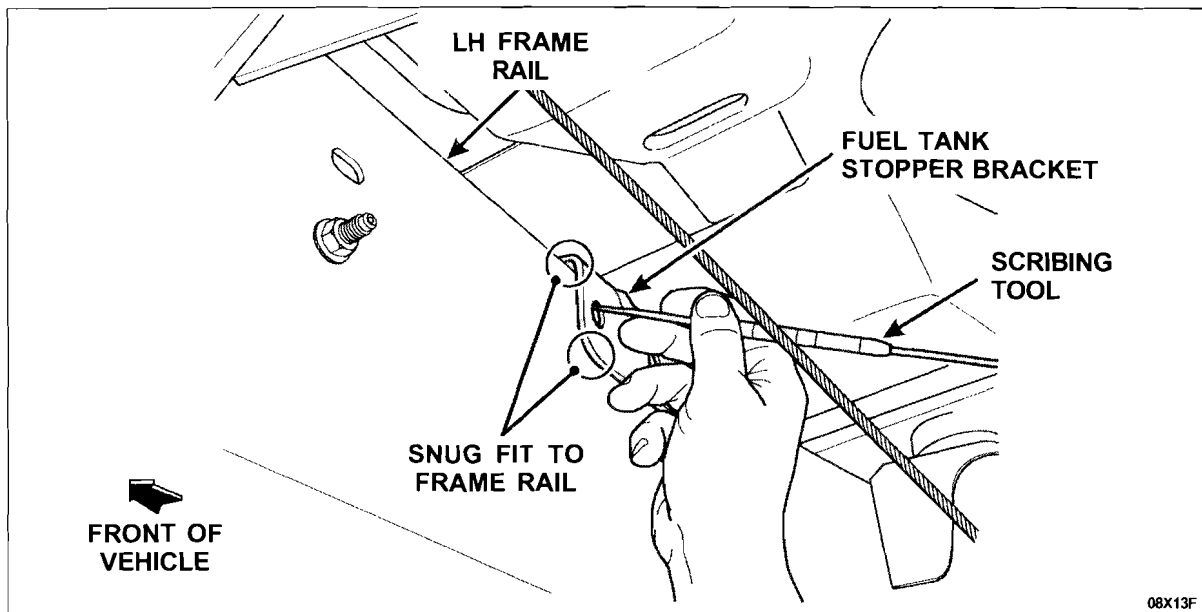

FIGURE 6
8. Inspect the fuel tank stopper bracket at the upper frame rail and confirm a **snug fit** with the frame rail. Locate the upper bolt holes in the fuel tank stopper bracket and scribe the ID location of the bolt holes onto the frame rail. See Figure 6. Remove the fuel tank stopper bracket from the frame rail.